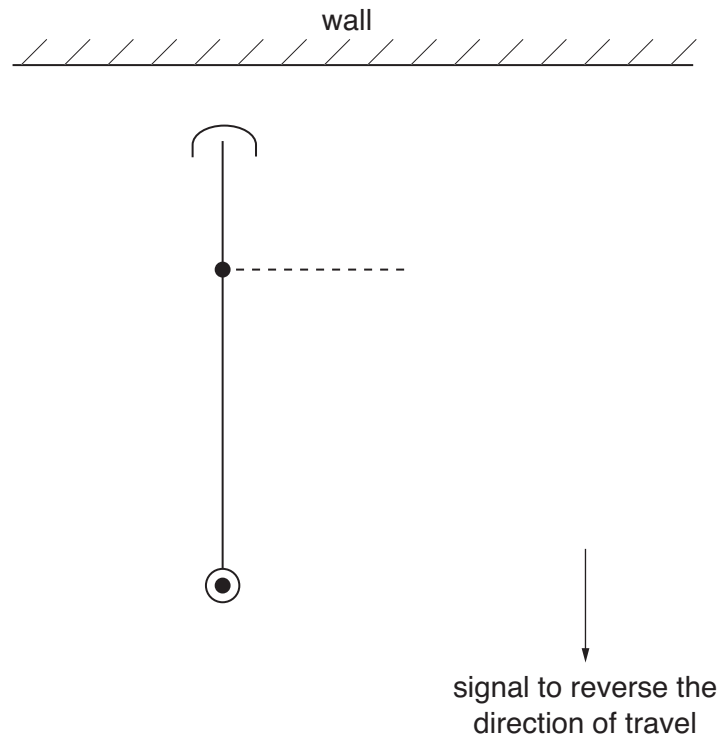

Fig. 7
- (a) Complete Fig. 7 by drawing the diaphragm valve needed to send a signal to reverse the direction of travel. Add any other component needed to operate the system safely. [5]